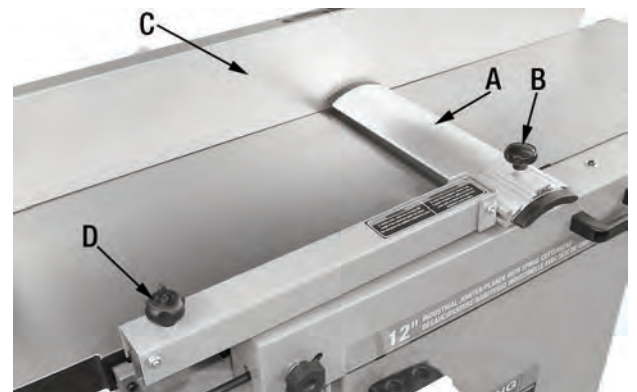

FIGURE 9
2. **Using The Cutterhead Guard:** The cutterhead guard (A) Fig.9 should be properly positioned so that it rests against the fence, when material is thin enough to pass under it. For edge jointing or for larger stock, the cutterhead guard must be pulled back to allow the material to pass freely by the end of the guard. To adjust the cutterhead guard position:
- a. Loosen the cutterhead guard lock knob (B) Fig.9 and slide the cutterhead guard (A) until it rests on against the fence (C).
- b. Adjust the cutterhead guard height using the cutterhead guard height adjustment knob (D) to allow the material to pass underneath.
- a. Loosen the cutterhead guard lock knob (B) Fig.9 and move the cutterhead guard away from the fence.
2. Loosen the cutterhead guard lock knob (B) Fig.9 and remove the cutterhead guard by sliding it out.